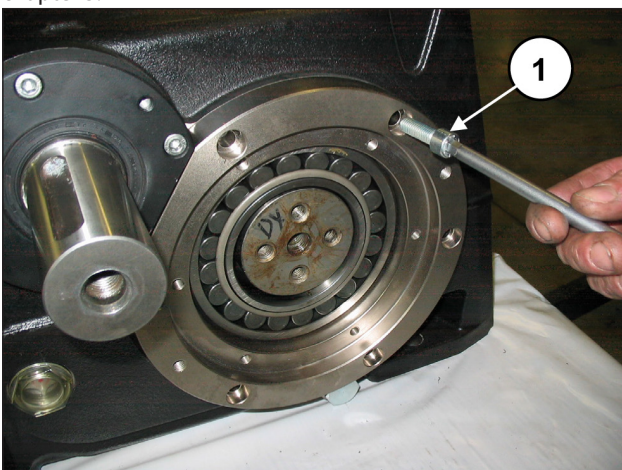

Fig. 75
Fasten the bearing support covers with 6+6 x M10x30 screws (pos. ①, Fig. 75). Calibrate the screws with a torque wrench as indicated in chapter 3.